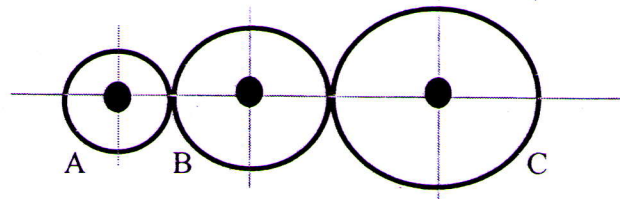

Figure 4
- 4 a) For the gears shown in Fig. 4, gear A (driver) rotates at 1000 rpm clockwise and delivers 30 kW of power. Gear A has a module of 10 mm, a pressure angle of  $20^\circ$  and 35 teeth while gear B has 45 teeth and C has 60 teeth. Draw free body diagram of each gear and calculate the forces acting on the gears and their shafts. (7)